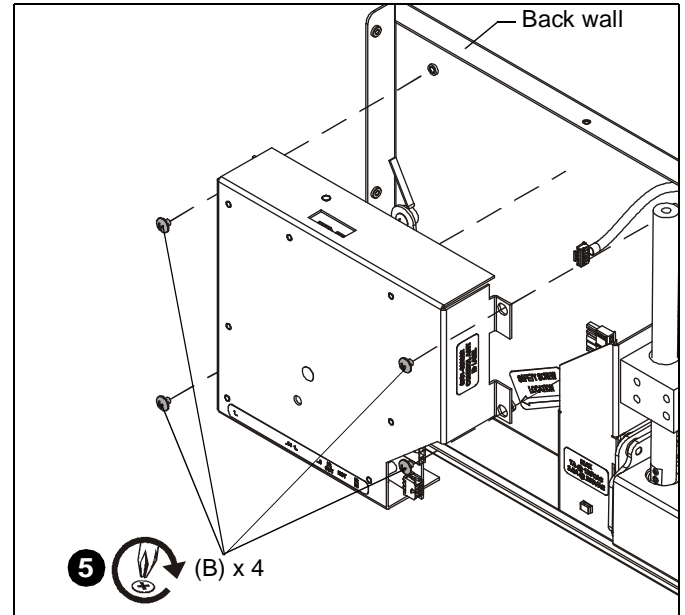

Figure 10
- Plug wiring into new control assembly (A) at three locations.
- Insert replacement SL220 control assembly (A) against SL220 back wall.
- Fasten control assembly to SL220 back wall with four 08-32 x 3/16" Phillips head screws (B). (See Figure 10)